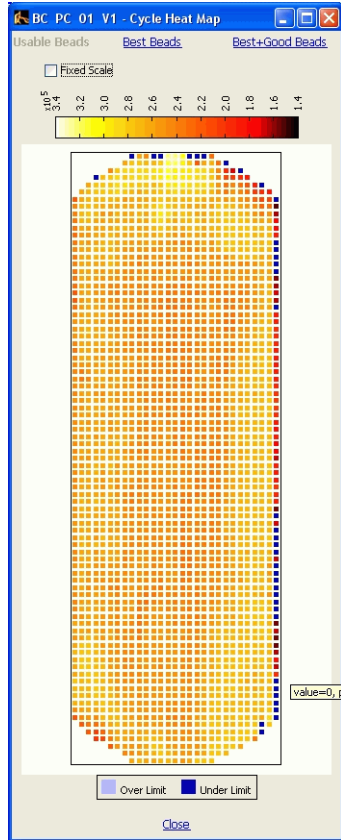

Figure 62 Click the heat map link to view the heat map for that cycle.
2. Click the heat map link to view the heat map for that cycle (see Figure 62).